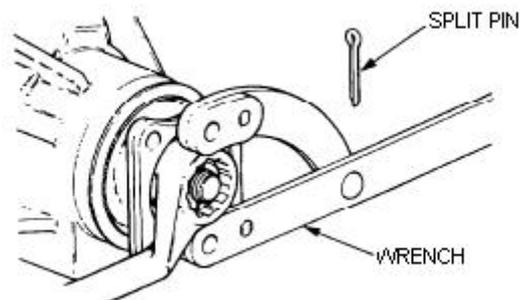

**Figure 229 Locking Finger and Adjusting Nut Removal**
- b. Remove the roll pins securing the adjusting nut locking fingers to the side bearing caps (Figure 229). Remove the locking fingers and unscrew the adjusting nuts.